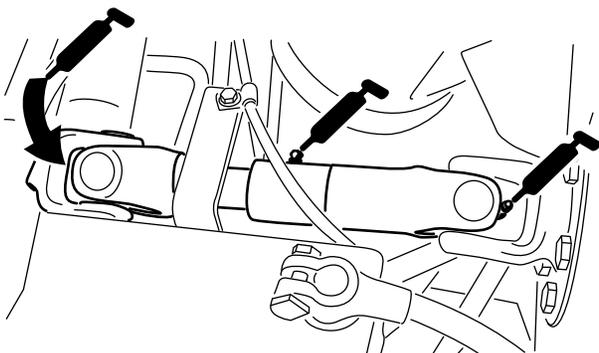

Figure 24
- Pump drive shaft U-joint (3) (Figure 24)